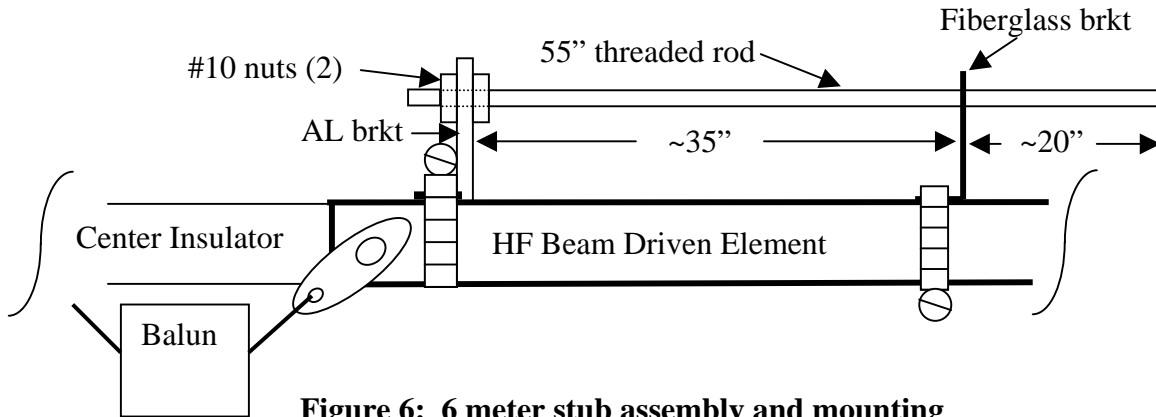

Figure 6: 6 meter stub assembly and mounting
- 8) Open up two #16 hose clamps and install them over the HF beam's driven element as close to the inside ends of the driven element as possible. Clamp the two aluminum stub channel brackets (one on each radiator) as shown in Figure 6.
- 9) Open up the remaining two #16 hose clamps (one on each radiator), clamp the fiberglass insulators so as to support the 55" threaded rods. Position the insulators as shown in Figure 6.
- 10) Mount the two stubs by threading a 10-32 x 3/8" nut 1/2" near the end of the threads. Add a second nut and lockwasher to sandwich the bracket between the two nuts, leaving no more than 1/4" of threaded rod exposed beyond the aluminum bracket. See Figure 6.